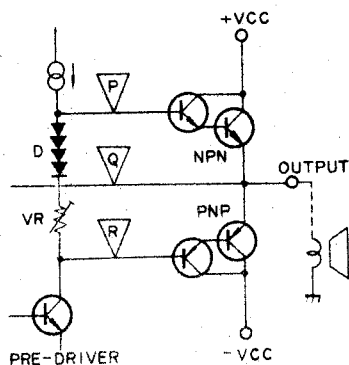
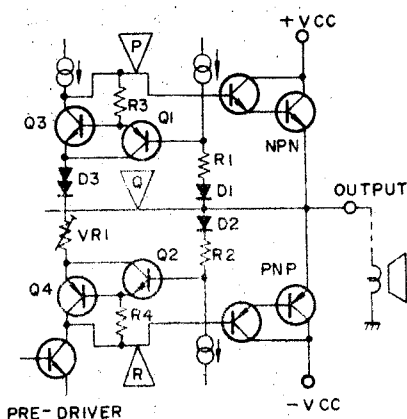

Fig. 4 Normal class B SEPP power stage
Fig. 5 Outline of NSA circuit
Since idle current flows through normal class B SEPP power stages (see Fig. 4) when no signal is applied, the DC level is shifted by D and VR by a fixed amount (with the voltage across points (P) and (R) serving as a bias). The voltage across points (P) and (Q), and (Q) and (R) at this time will be equal. When the positive portion of a signal
This NSA circuit is outlined in Fig. 5. When there is no signal applied to the circuit,  $Q_1$  and  $Q_2$  are almost cut off, while  $Q_3$  and  $Q_4$  will be on. The voltage across the collector and base of both of these transistors ( $Q_3$  and  $Q_4$ ) at this time may be disregarded. Consequently, with the power stage bias circuit consisting of 4 PN junctions formed by  $Q_3$ ,  $D_3$ , and  $Q_4$ , and  $VR_1$ , this circuit is equivalent to the previous circuit shown in Fig. 4.